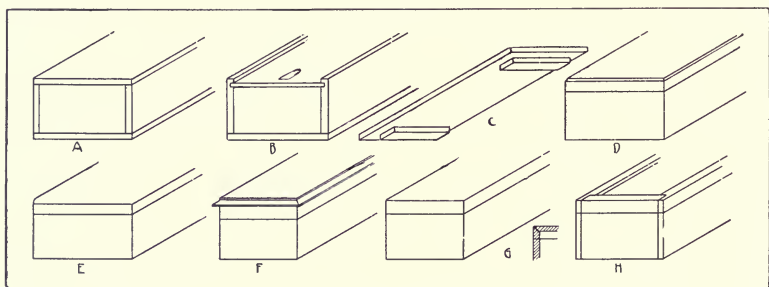
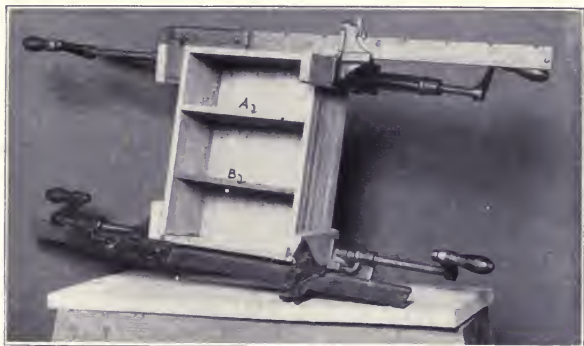

Fig. 285. Forms of Box Construction.
Fig. 286. Gluing Together a Box.
*The Lids of Boxes.* The simplest form is a full flat cover, Fig. 285, A, which may be nailed or screwed to the box, as in packing cases. The cover may slide into a groove, Fig. 285, B, along the sides
and into one end, the other end being lowered to admit it. The cover may have cleats on its underside, Fig. 285, E, which fit just inside the box and keep the top in place. The cleats also prevent the
The lid may be boxed, Fig. 285, D, that is, portions of the sides may be affixed to the top. These extra pieces are a help to stiffen the top and to keep it from warping. A boxed top may have the top board flush with the sides, Fig. 285, E. The disadvantage of this is that the top may shrink and part from the sides and give a bad appearance. The overlapping top, Fig. 285, F, obviates this trouble of shrinkage and adds a decorative element. In this case the top may be glued on or screwed from below thru the side strips.
The top may be mitered into the sides, Fig. 285, G. The shrinkage trouble still obtains here. Otherwise the appearance is excellent. The top may be paneled into the sides, Fig. 285, H. This has a good appearance if the sides are mitered or ledged but not if the sides are butted or dadoed, because then the groove for the top shows.
In gluing boxes together, it is a good plan to glue the ends and sides together first and to let these joints dry before gluing on the bottom and, in the case of a boxed top, Fig. 285, D, the top. Care must be taken to see that the sides do not bow under the pressure. To prevent this, one or more false, temporary partitions as A, B, in Fig. 286, of exactly the length to keep the sides
straight, may be inserted. In gluing together boxes with rabbeted joints, Fig. 285, H, pressure should be applied in both directions.